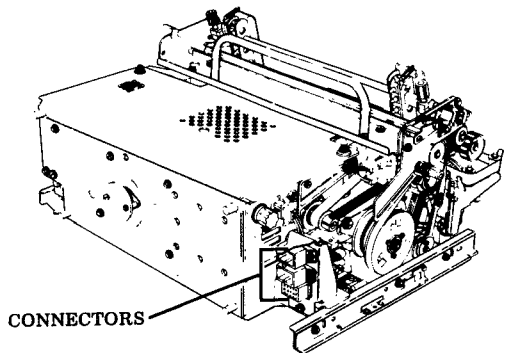

Fig. 74
Step 3 — Slide printer in place (Fig. 74):